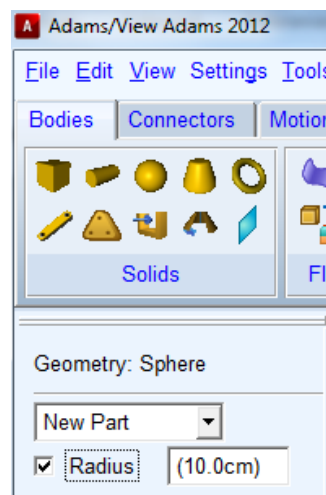

Figure 1.8
- Select "New Part" and set the radius to 100 mm as shown in Fig. 1.8. (Do not forget to mark “Radius” with a “✓”)